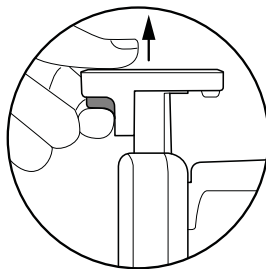

Figure 7
7. Press the Arm Release button to lift the Arm Lock Up on the NutriSeal™ Vacuum Arm (Figure 7).